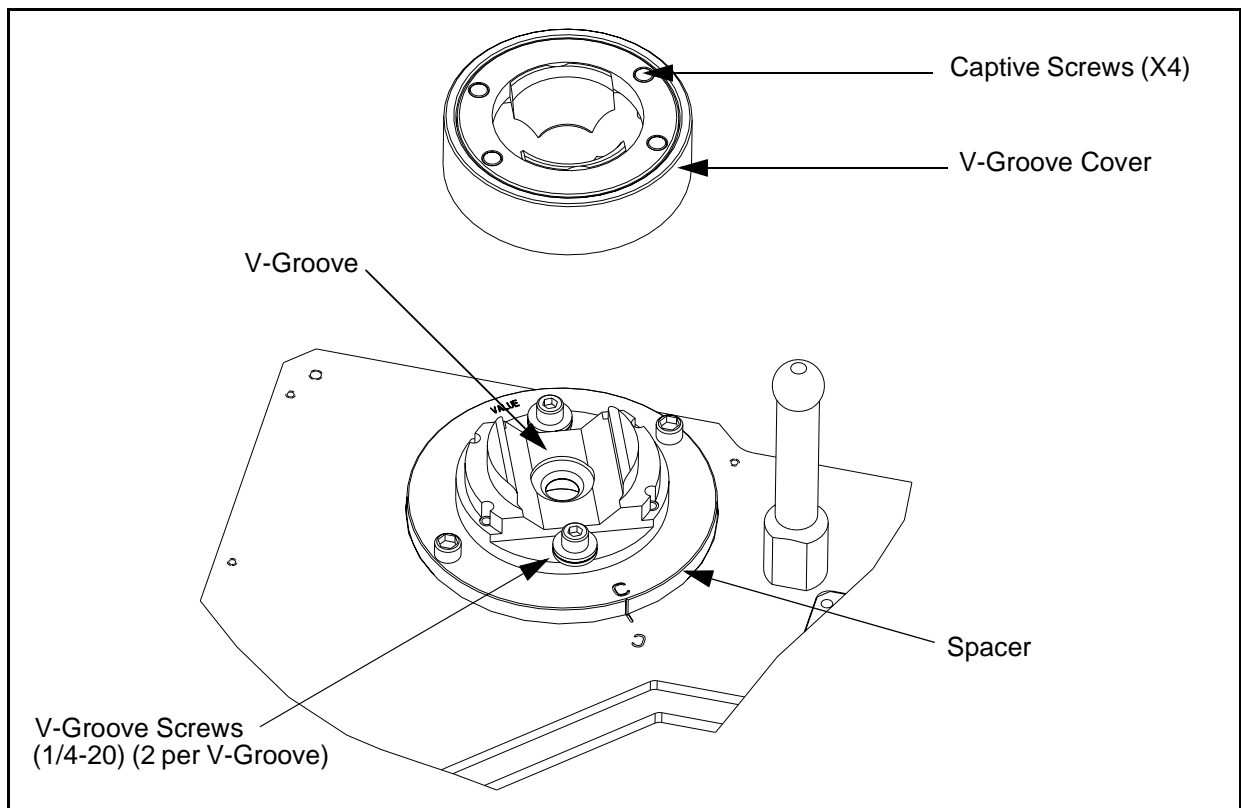

Figure 2 V-groove Cover Removal and Loosening the Spacers
- 2) Remove the three V-groove covers by loosening the four captive #8 screws holding the V-groove cover to the V-groove. See Figure 2.
- 3) Loosen the V-grooves from the spacers by 1/4 turn of the 1/4-20 screws. See Figure 2.